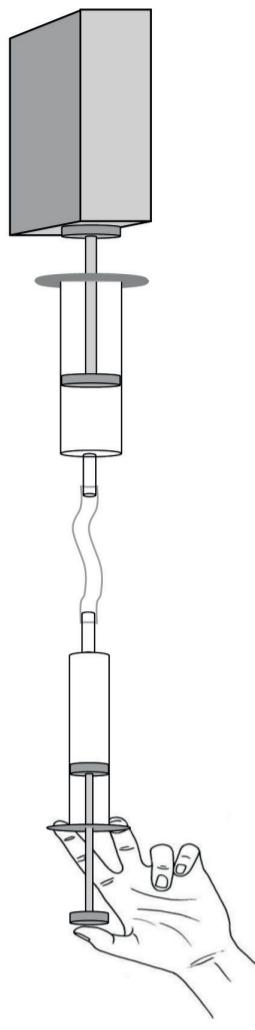

Figure 20
3. Now the syringe on the right is thicker than the syringe on the left. Suppose the two syringes and the tube in Figure 20 are filled with water. If the plunger on the left is pushed in 1 cm, will the plunger on the right move out by 1 cm or not? Explain your answer.